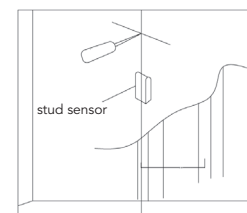
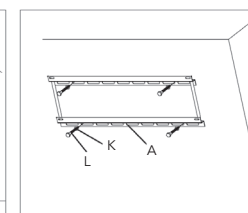

fig. 2.1
fig. 2.2
The wall plate (A) must be anchored to the two wood studs at a distance over 30.5cm (12"). Use a high quality wood stud finder, to locate two adjacent studs. We suggest using an awl, or thin nails, to confirm the location of the wood stud (as shown in fig 2.1). Use the 5mm (1/5") drill bit and drill 64mm (2 1/2") deep holes in each of wood stud's. Then use four M8 square head screw bolts (L) and four metal pads (K) and install the wall plate to the wall, please make sure the installation direction of the wall plate is correct (as shown in fig 2.2).